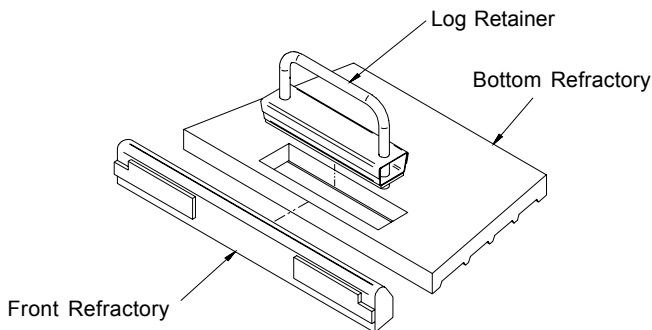

FIGURE 3 - Front, Bottom Refractory
Step 2. Remove the Bottom Refractory by lifting and sliding it forward enough to clear the Front Refractory (see Figure 3).